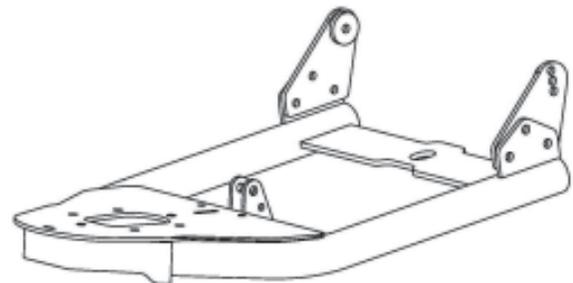

Figure 13
- Finally install the plow mounting tab to your Plow Tube Assembly, see Figure 13. Install these loosely on the plow with the fasteners provided with the plow. Tighten the fasteners after the plow is assembled and installed in the mount according to the plow assembly instructions.